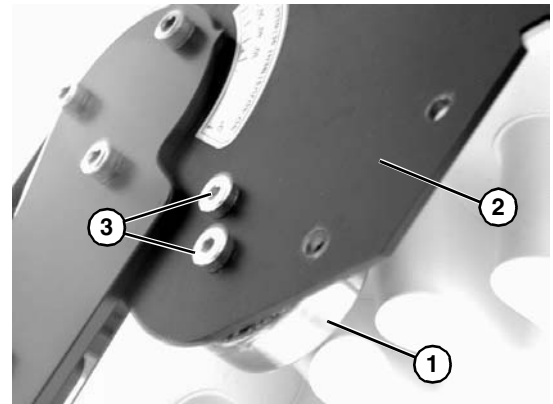

Figure 29
3. If equipped, install return roller bearing (Figure 29, item 1) into knuckle plate (Figure 29, item 2) using screws (Figure 29, item 3).